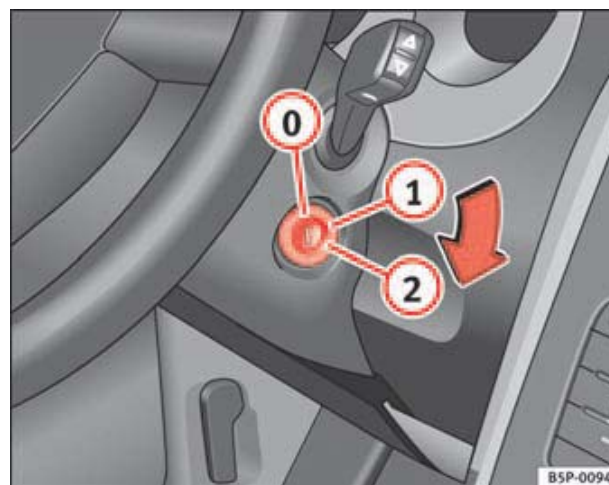

Fig. 115 Ignition key positions
In the position ⇒ fig. 115 the ignition and the engine are OFF and the steering may be locked.
- Turn the ignition key to position ⇒ page 152, fig. 115 . The indication lamp  will light for engine pre-heating.
- Turn the ignition key to position ⇒ page 152, fig. 115 .